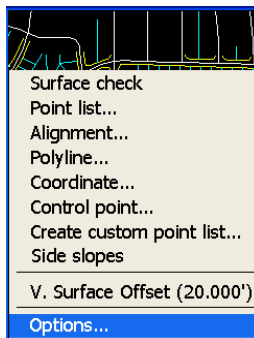

Figure 7-1. View Stake-out Options
1. To view or change an option for stake-out measurements, press **Survey ▶ Stake-out ▶ Options** (Figure 7-1).